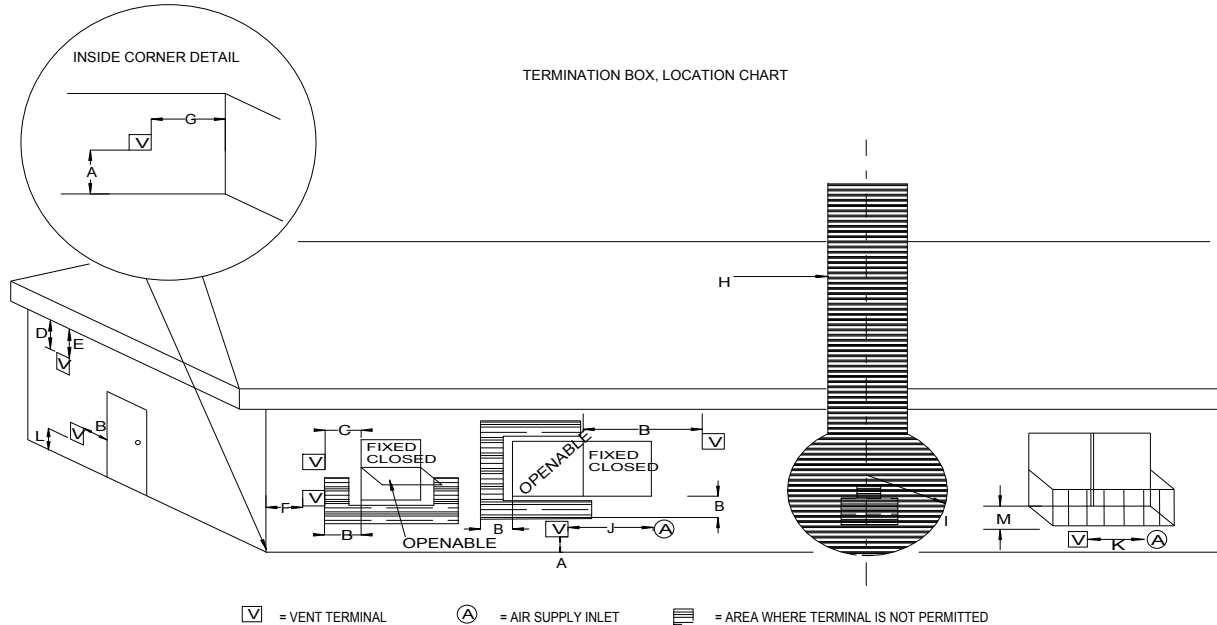

Figure 17– Minimum Clearances for Vent Terminations
When locating vent termination, it is important to observe the minimum clearances shown in Figure 17, page 8.
1. Determine the route your vertical venting will take. If ceiling joists, roof rafters, or other framing will obstruct the venting system, consider an offset (see Figure 26) to avoid cutting load bearing members. **Note:** Pay special attention to these installation instructions for required clearances (air space) to combustibles when passing through ceilings, walls, roofs, enclosures, attic rafters, etc. Do not pack air spaces with insulation. Also note maximum vertical rise of the venting system and any maximum horizontal offset limitations. Offsets must fall within the parameters shown in Figure 17 .